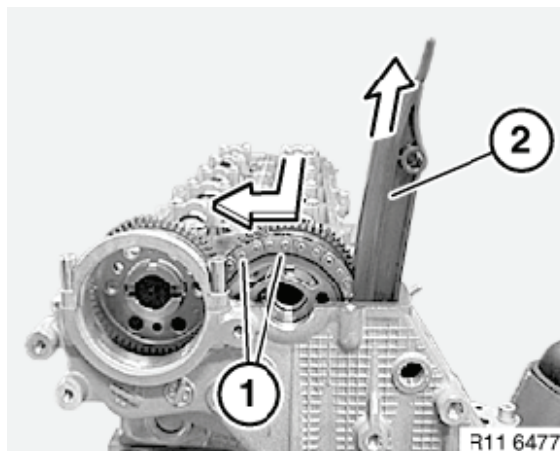

Figure 5-98
16. Remove sprocket and chain from intake camshaft (**Figure 5-98, (1)**).
17. Release guide rails (**Figure 5-98, (2)**) from mount and remove.